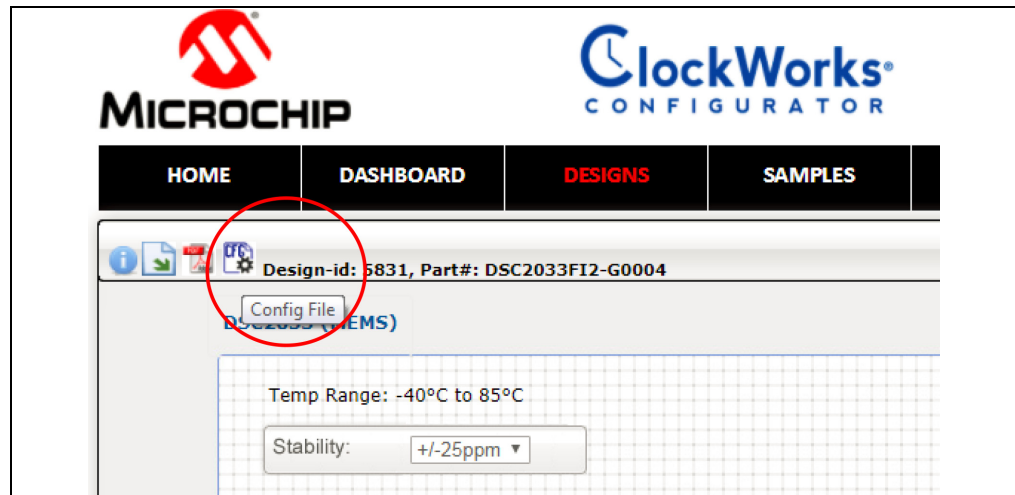

FIGURE 3-13: Locating the Config File in ClockWorks.
5. After submitting the design/sample request, click on the **Config File** icon (purple CFG) to download the device configuration file (see Figure 3-13).